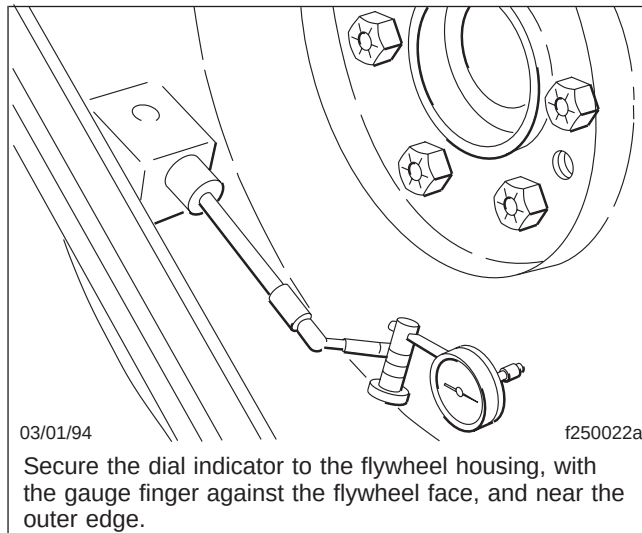

Fig. 1, Measuring the Flywheel Face
2. Measure the runout of the flywheel face (friction surface), as follows. See Fig. 1 for the correct setup.